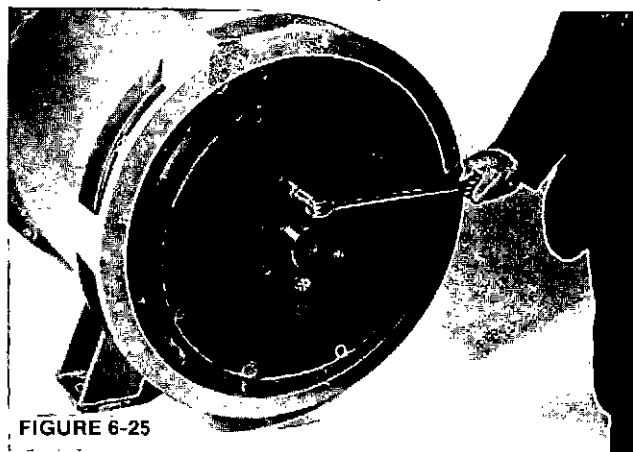

FIGURE 6-25
4. a. For single bearing generators, remove the capscrews and hardened washers holding the drive discs to the drive hub. (Figure 6-25.) Remove all drive discs (and spacers if any).